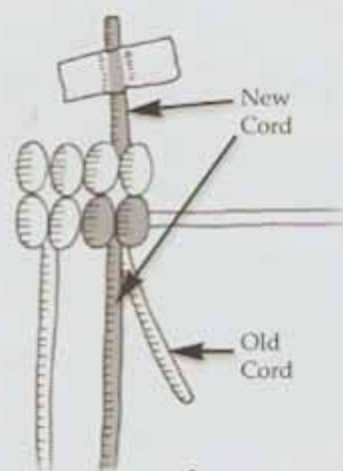

Fig. 4
1. Adding a vertical (warp) cord - Position the new replacement cord behind the piece so that the long end emerges wherever you need to replace the cord. Tape the short end of the replacement cord to the board to hold it in place. Move the cord that needs to be replaced to the back of the piece and out of the way. Make a **DHH** with the new cord around the horizontal **AC**. Continue knotting the piece with the other original cords (see Figure 4).